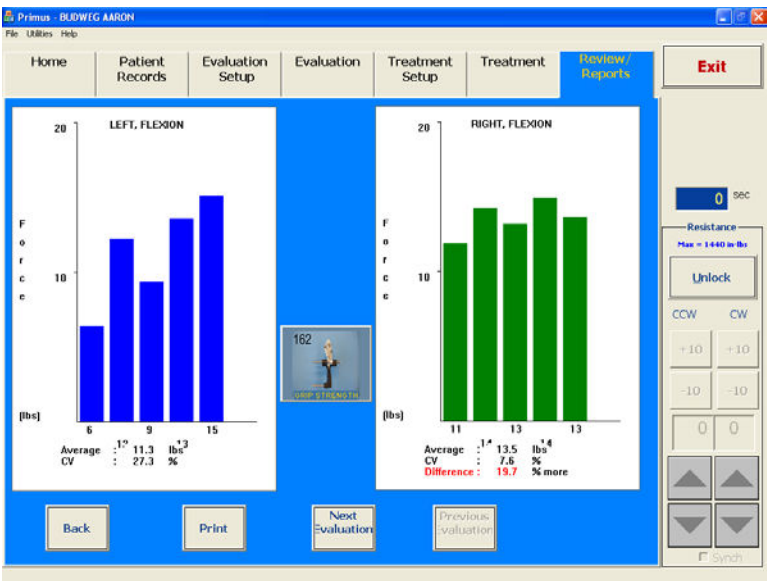

Figure 6b
Step 2. To review a specific test, move your cursor to the appropriate test type and double click on the test name. This action will display a full-color graph of that particular test (Figure 6b).